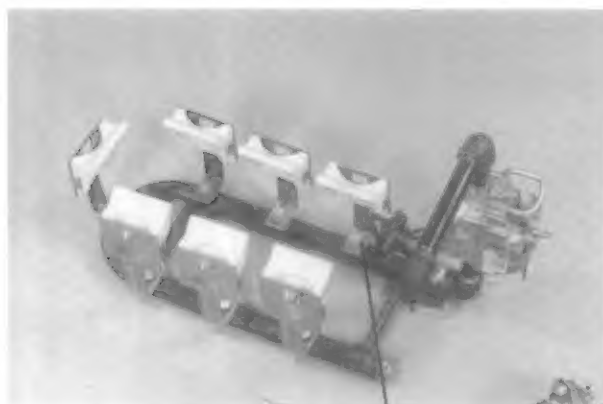

Fig. 12
- 3) Using a ½ in. box end wrench or socket and ratchet, remove the 2 brass orifices that hold the target bracket to the burner manifold. See Figure 12.